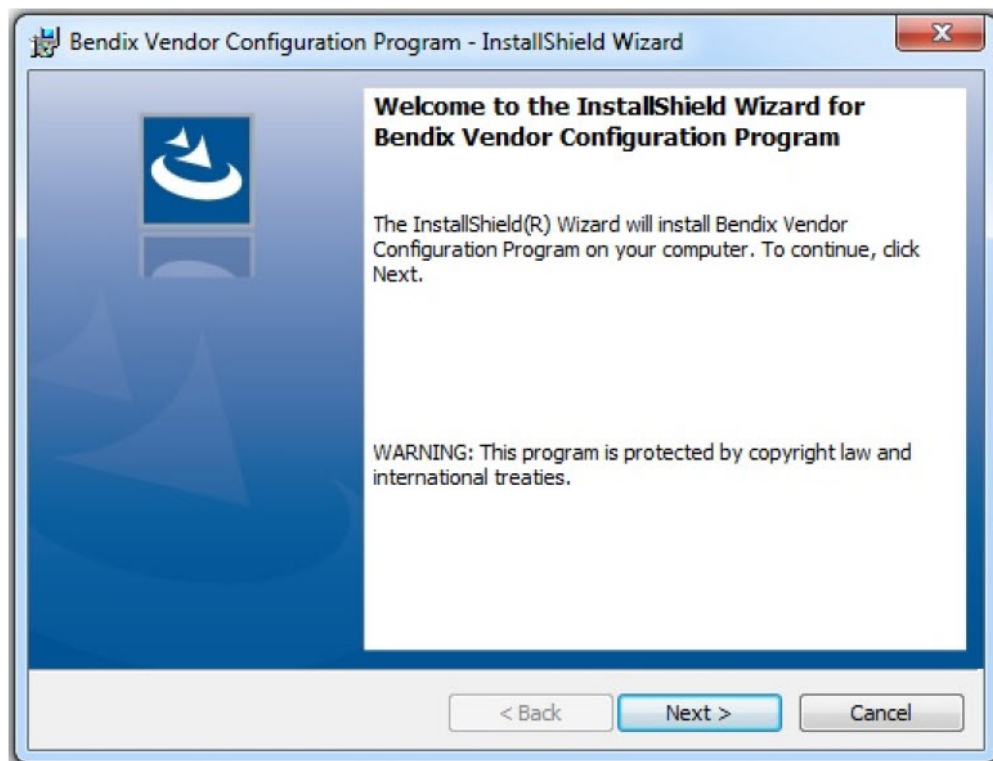

Figure 3
Remove 1/4" airline that runs from ATR6 control port to Hill-start assist valve. See Figures 3 and 4. Replace 1/4" line with 3/8".
7. When the component installation finishes, the installation will continue. Click '**Next**' to proceed. [see figure 3]